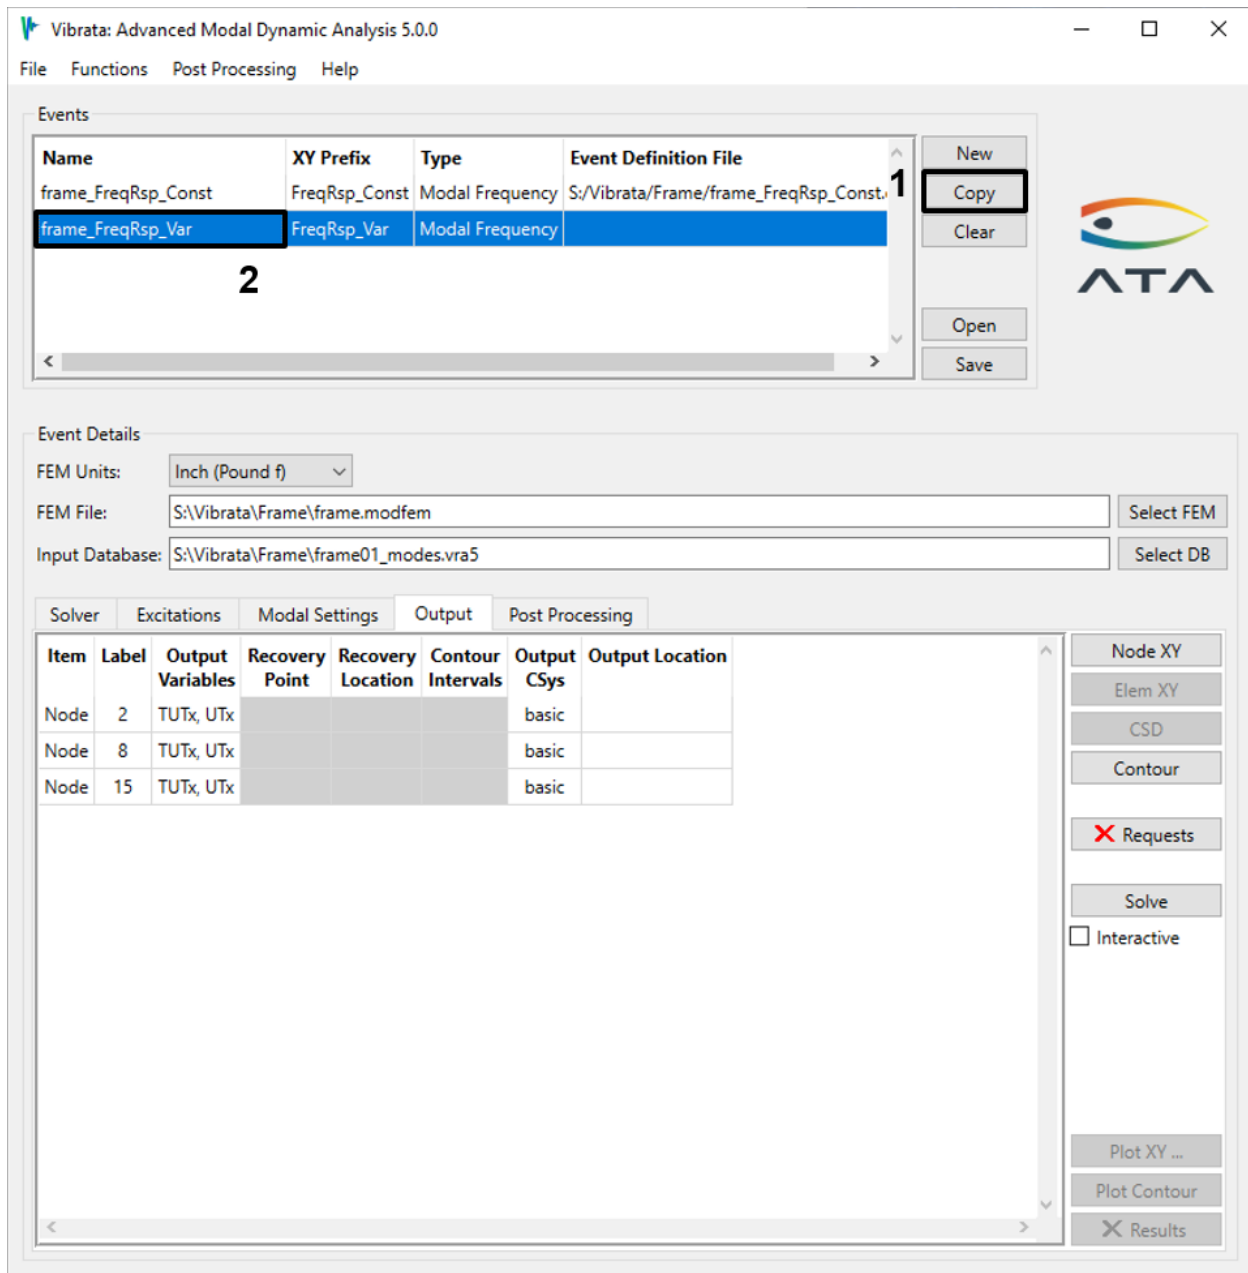

Figure 4-33. Use the **Copy** button to create a new event from an existing one.
- b. Rename the new event to "frame_FreqRsp_Var" and set the XY Prefix accordingly. Note that its output requests are again in black text; these have not yet been solved (Figure 4-33).